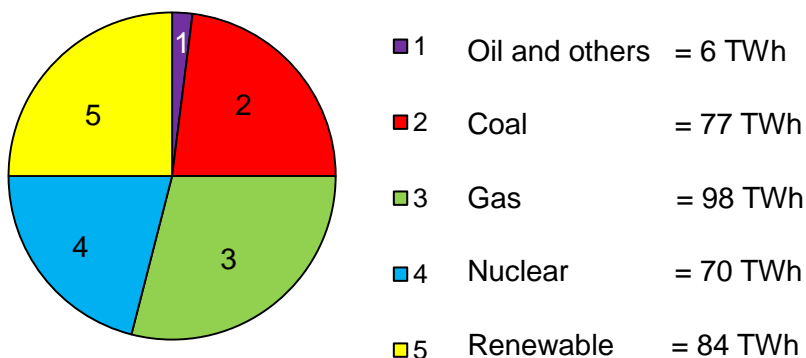

Fig. 8
- (c) **Fig. 8** shows a pie chart of the quantity of electricity generated by different types of fuel in the UK in 2015.
- (ii) Hydro-electricity is one type of renewable energy shown in **Fig. 8**.